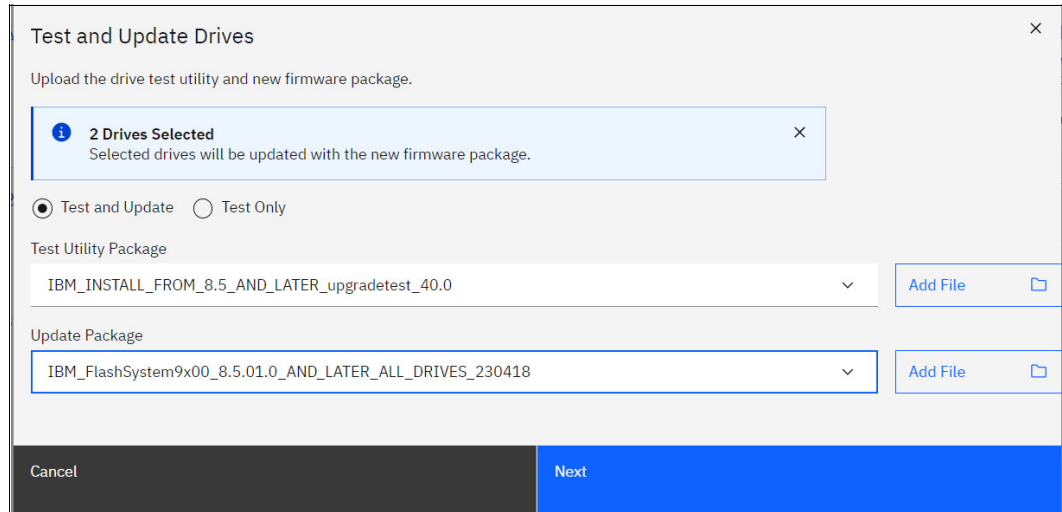

Figure 10-13 Drive firmware upgrade
2. As shown in Figure 10-13, browse to the test utility and drive firmware package you downloaded, as described in “Obtaining the software packages” on page 649. To upload the required files use the click **Add File** or use the option **File Upload** as described in “Provide the package manually” on page 650.